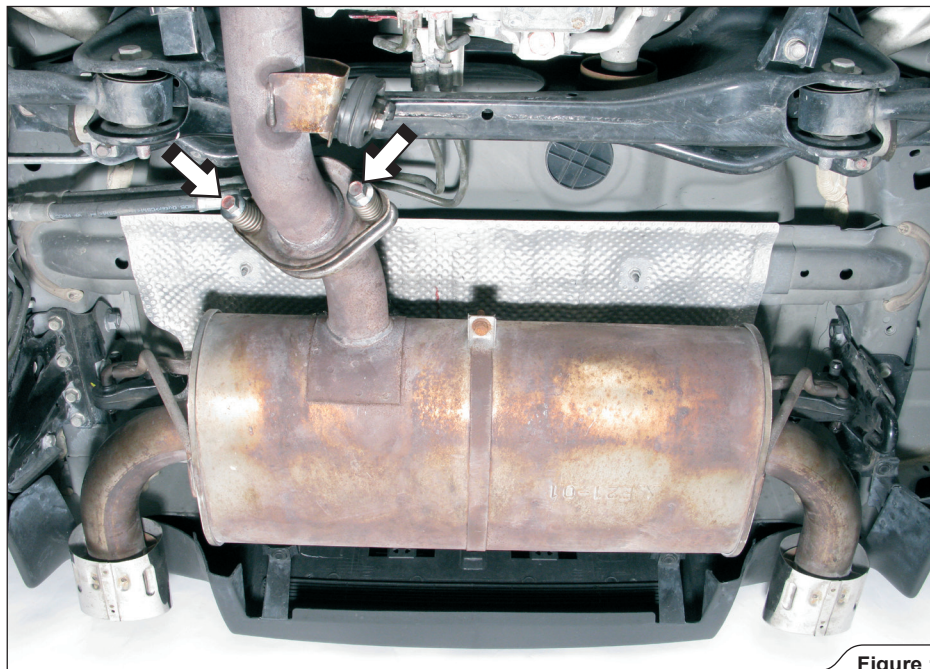

Figure 1
1. **For Slip-On and Evolution:** unscrew the marked bolts (**Figure 1**).